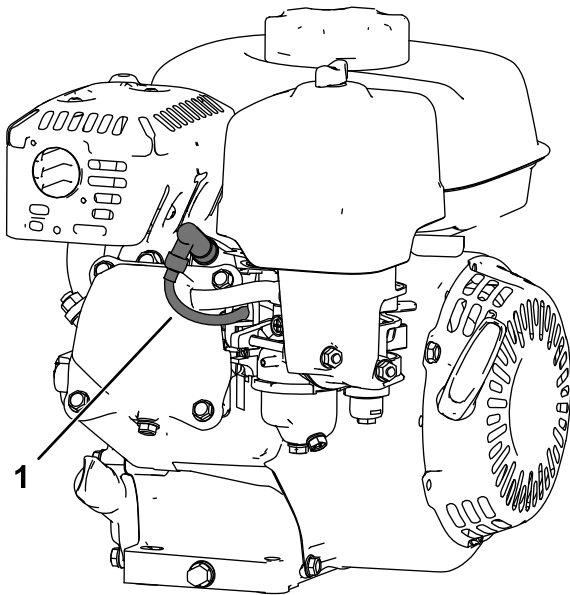

Figure 13
5. Disconnect the spark-plug wire (Figure 13).